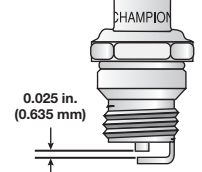

Fig. 41
3. Replace a cracked, fouled or dirty spark plug. Set the air gap at 0.025 in. (0.635 mm) using a feeler gauge (Fig. 41).